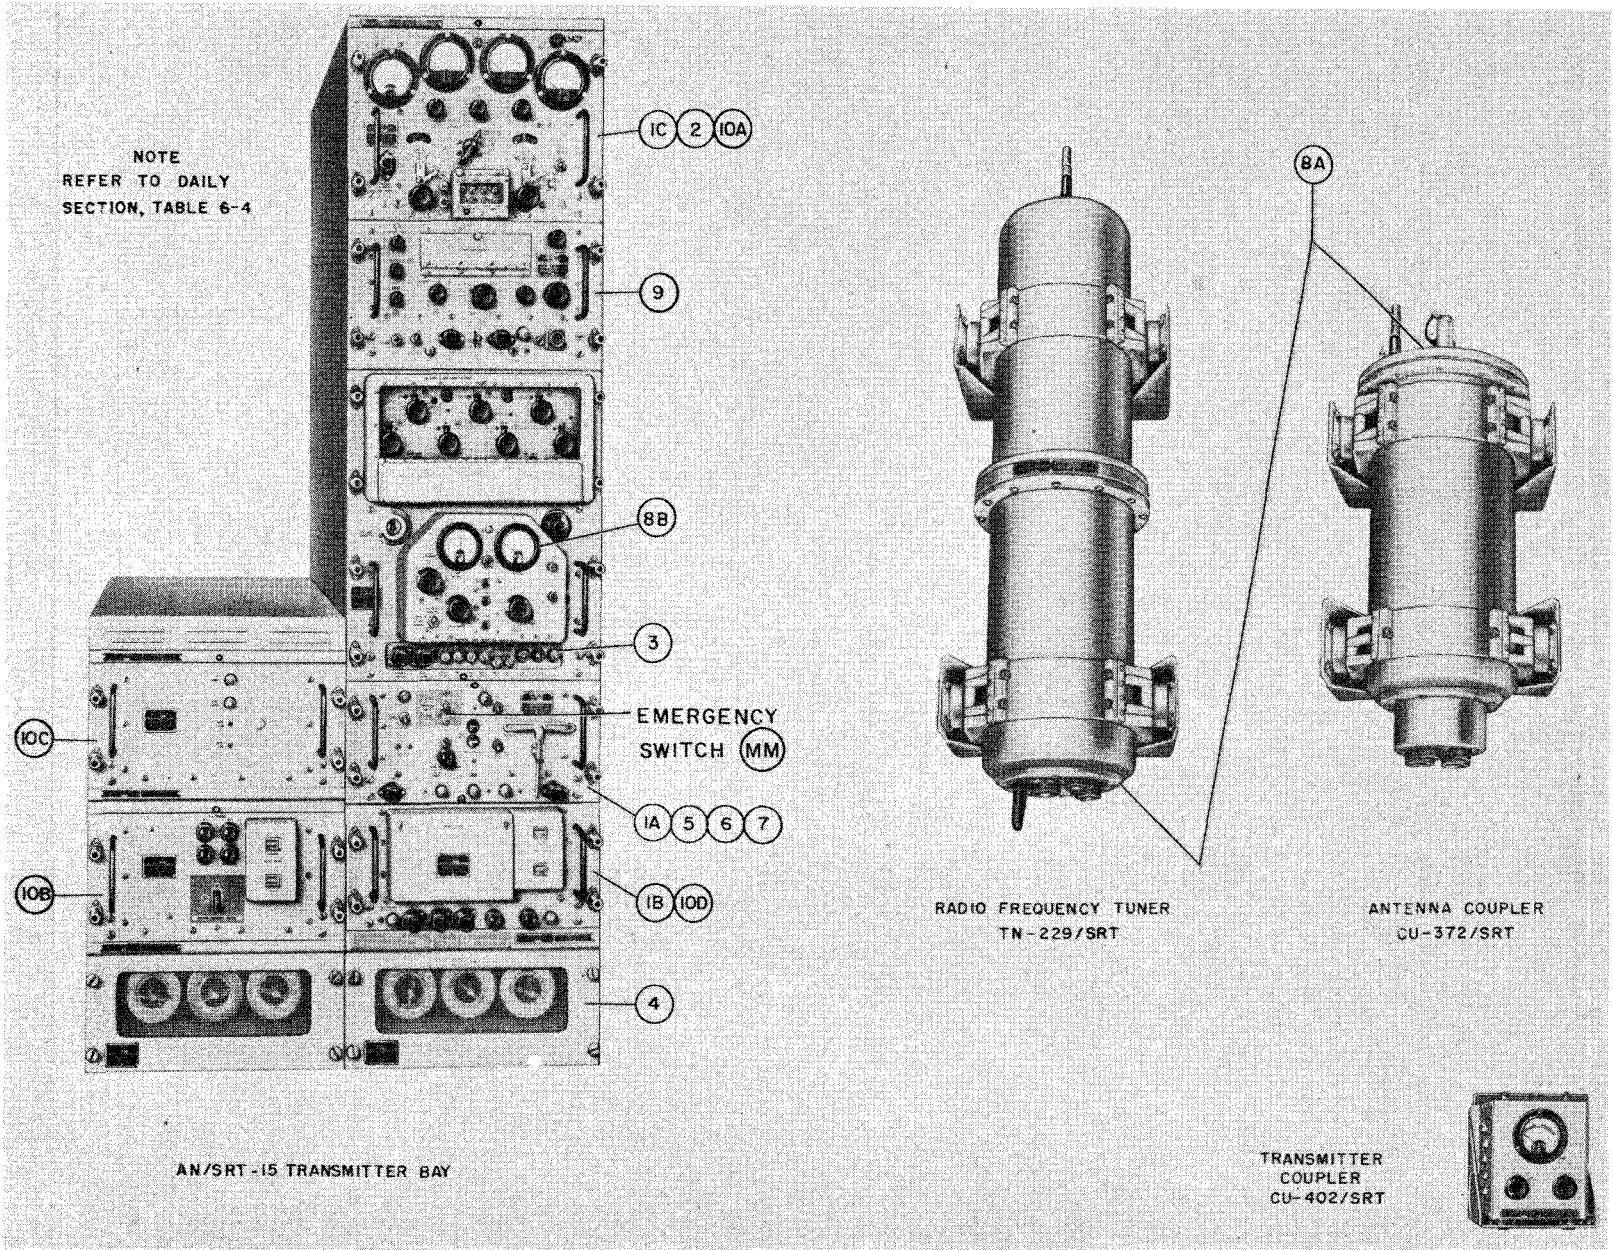
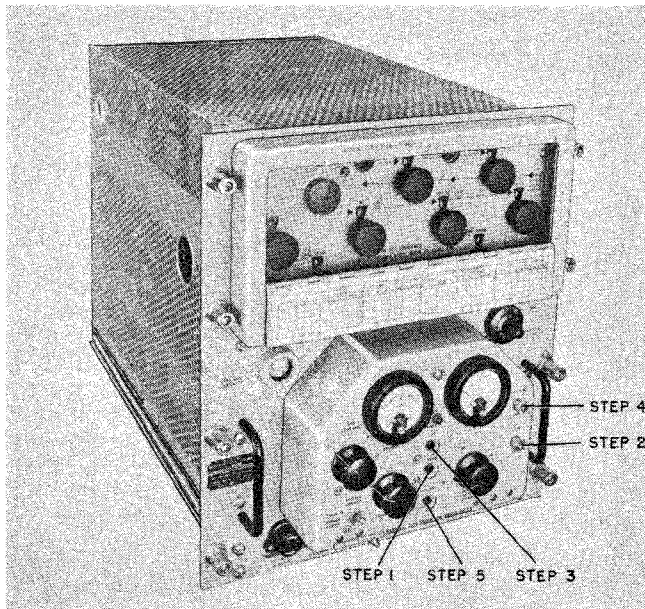

Figure 6-1. Daily Routine Maintenance Checks, AN/SRT-15
Figure 6-2. Control-Indicator C-1352/SRT, Adjustments for R-f Tuner Control
Preventive maintenance is routine procedure that is used to check needless breakdown of running equipment and to keep it working efficiently for as long a period as possible. If wear is noticed and checked at an early stage, a serious shutdown may be avoided. Constant and careful inspection, care in replacement and handling procedures, together with the use of proper methods of assembly and disassembly of parts, are all necessary in contributing to the over-all efficient maintenance of the equipment. Accurate records must be kept and a series of routine checks instituted. These will be explained in more detail later in this section. Figure 6-1 illustrates a typical Radio Transmitting Set AN/SRT-15 installation.
| WARNING Dangerous voltages exist in the AN/SRT-14, 15 and 16 equipment. The technician should familiarize himself with the voltages present in any chassis in which a check for adjustment is to be made. Before removing a chassis in the transmitter group, turn the EMERGENCY SWITCH  (see figure 6-1) on the front panel of the LVPS to OFF. This will shut down the equipment. | | |
| 1. General Sequence 100-Watt Operation | DAILY (See figure 6-1.) Note The short or common names used in this section are taken from Section 5, table 5-1. | Note Refer to table 5-2, Preliminary Control Positions, before starting these checks. The equipment is presumed to be not operating at this time. |
| a. Power Supply PP-1094/SRT (LVPS) | (See 1A, figure 6-1.) Step 1. Place EMERGENCY SWITCH  in ON position. | |
| b. Power Supply PP-1095/SRT (MVPS) | (See 1B, figure 6-1.) TOTAL HOURS-FILAMENT meter begins to operate when MAIN POWER switch  is energized. | The MAIN POWER INDICATOR will be illuminated only after the START button of the MAIN POWER switch  is energized. After time delay, the following lamps will light: (1) TIME DELAY (LVPS) (2) +250 V (3) +300 V (4) -220 V (5) 500 V PRI. (MVPS) (6) 500 V OUTPUT (7) 1300 V OUTPUT (8) 1300 V PRI. |
| c. Radio Frequency Amplifier AM-1008/SRT (RFA) | (See 1C, figure 6-1.) | The 100 W-READY lamp on the RFA will be illuminated. |
| 2. RFA Blower | (See 2, figure 6-1.) The RFA blower starts when the MAIN POWER switch  on the LVPS is energized. | Check blower by listening for operation. |
| 3. RFO Oven Heaters (HEATER ON) | (See 3, figure 6-1.) The indicators for the oven heaters are marked: a. INT. b. X-TAL c. F.S. | These lamps have their own supply and operate intermittently. Always check lamps first, if trouble is suspected. |
| 4. Base Mount Blowers | (See 4, figure 6-1.) After the time delay, the base mount blowers will operate. | Listen for blower operation, after time delay. |
| 5. Cabinet Heater | (See 5, figure 6-1.) Turn CABINET HEATER switch Ⓜ to its ON position. | The CABINET HEATER lamp will be illuminated. If trouble is suspected, check lamp first. Note Keep CABINET HEATER switch Ⓜ in OFF position, unless the heaters are needed. |
| 6. INTERLOCK BATTLE SHORT switch Ⓜ | (See 6, figure 6-1.) Place switch in ON position; the lamp marked INTERLOCK SHORTED WHEN ON will be illuminated. | The INTERLOCK BATTLE SHORT switch Ⓜ bypasses the drawer interlocks and allows operation of the equipment even with a component removed from its drawer. |
| 7. INT. TEST jacks (Interlock Continuity) | (See 7, figure 6-1.) Place ohmmeter leads across test jacks as a check for continuity. | The INTERLOCK BATTLE SHORT switch Ⓜ is in OFF position for this check. If no continuity is indicated, check the various chassis interlocks or their cheater switches. |
| 8. R-F Tuner and Antenna Coupler a. Pressure Gauges b. R-F Tuner control | (See 8A, figure 6-1.) Check readings on pressure gauges. (See figure 6-2.) Step 1. Press DOWN button on control-indicator until pointer of POSITION meter stops at bottom of scale. | Each gauge should read 20 psi. Refer to paragraph 6m for pressurizing information. Note Reading of these gauges daily is based on the premise that the units are readily available. Should these units be placed in remote positions a revision of the schedule may be needed. |
| 9. Remote Operation | (See 9, figure 6-1.) Place LOCAL-REM switch ⊗ in REM position. | In remote operation, the equipment is operated from the remote Navy radio- phone unit. |
| a. Radio Frequency Amplifier AM-1008/SRT (RFA) | (See 10A, figure 6-1.) Step 1. Energize the PUSH FOR 500 W switch ⊕. | |
| b. Power Supply PP-1096/SRT (HVPS) | (See 10B, figure 6-1.) Step 2. Place BOOSTER EMERGENCY SWITCH ⊗ in ON position. | The following lamps will be illuminated: (1) φ1 (2) φ2 (3) H.V. φ3 The TOTAL HOURS-500 W elapsed-time meters will operate. |
| c. Radio Modulator MD-230/SRT (HLRM) | (See 10C, figure 6-1.) | The following lamp will also light: (1) 3000 V (HLRM) |
| d. Power Supply PP-1095/SRT (MVPS) | (See 10D, figure 6-1.) | The following lamps will be extinguished: (1) 1300 V OUTPUT (MVPS) (2) 1300 V PRI. |